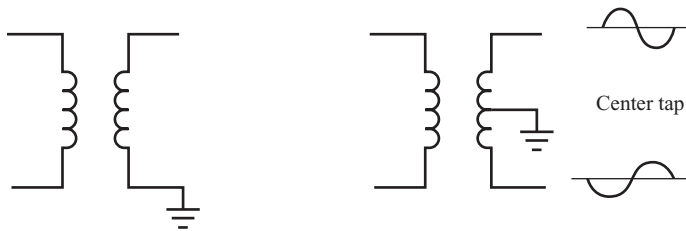

FIGURE 10.5
- 4** The transformer shown in the right side of Figure 10.5 has three terminals. The additional terminal, in the middle of the coil, is called a *center tap*.
What is the difference between the two output waveforms shown for the transformer on the right side of Figure 10.5? _____